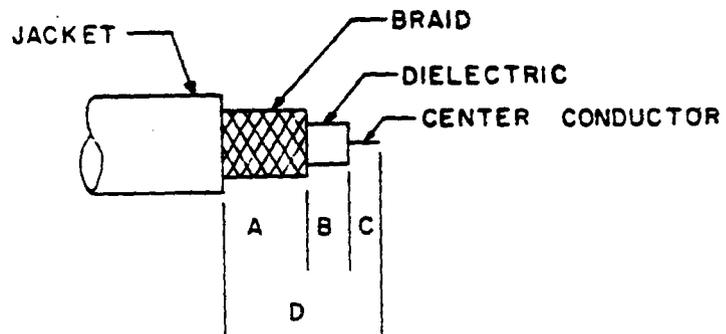

FIG 2 METHOD OF PREPARING CABLE
5.1 Cables should be prepared in accordance with Figure 2 with dimensions taken from Table A.